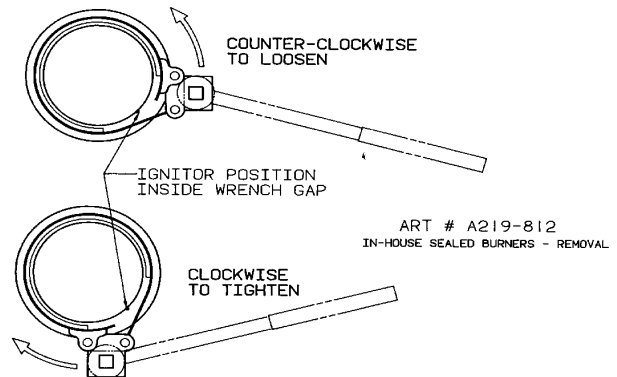

FIGURE 3
3. Place burner wrench (part no. 8312D075-60, available from the dealer or authorized service agency) over the surface burner assembly with the igniter positioned inside the gap in the wrench ring (figure 3). This prevents the igniter from being damaged when the wrench grips the burner assembly. Rotate the burner assembly approximately one-eighth turn counter-clockwise and lift from the main top.